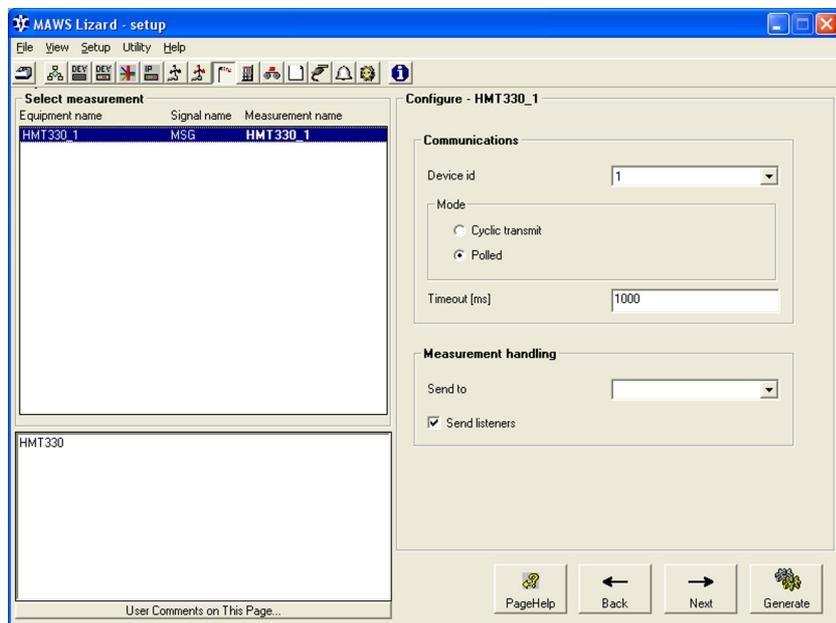

Figure 34 Measurements View: Configuring Humidity and Temperature Transmitter Communications Options
6. Proceed to the **Measurements** view; see Figure 34 on page 76.